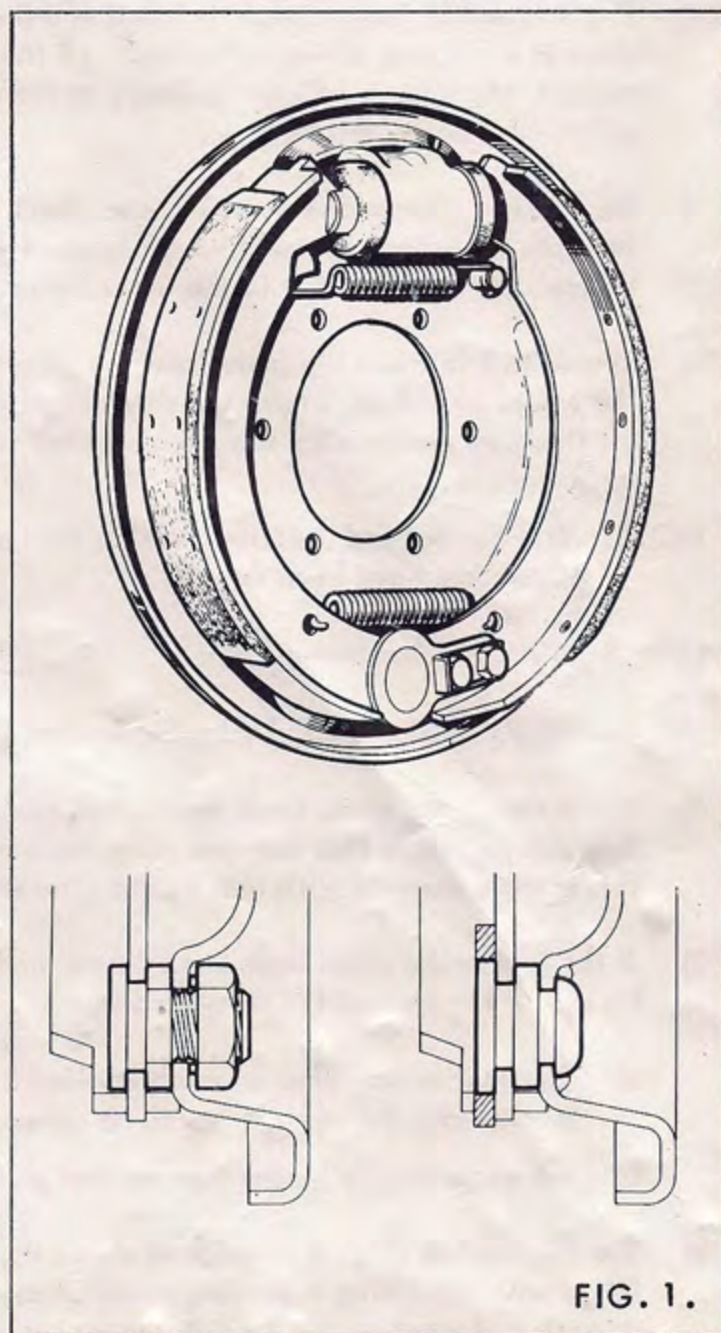

FIG. 1.
- a) When new shoes are fitted adjustable type steady posts must always be correctly reset. If there is still a poor or long recentralising on the backplate (Fig. 1).